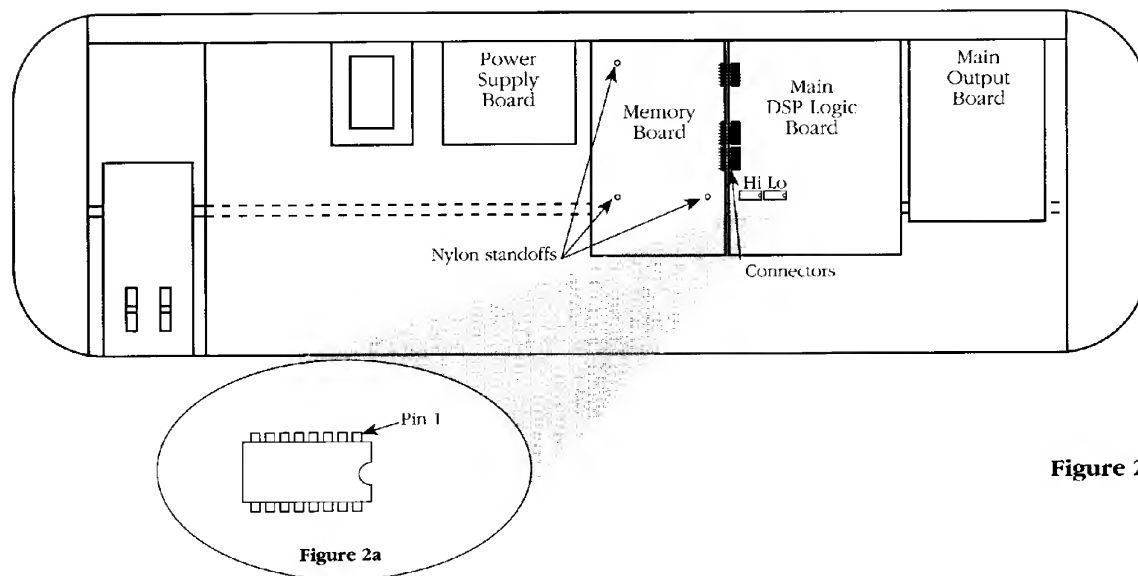

Figure 2
5. Locate the original Memory Board as illustrated in *Figure 2*.
Applying a bit of upward pressure on the board will allow the left side to lift free of the standoffs. Once the left side is free of the standoffs, carefully slide the board to the left (unplugging the connector) and lift it out. Refer to *Figure 2* for standoff and connector locations.
10. To update the operating system version, new EPROMs need to be installed. These are labeled “Hi” and “Lo” and are located on the Main DSP Logic Board. Refer to *Figure 2* for the proper location of the “Hi” and “Lo” EPROM ICs.